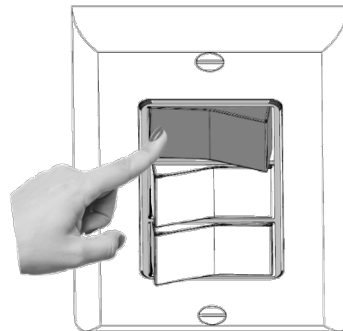

Fig. 15
2. Hold the light switch according to figure 15. This step is necessary to prevent the switch from moving during the installation of the lock.